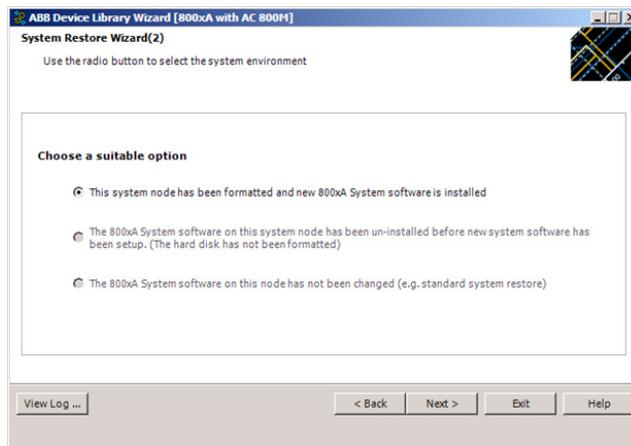

Figure 10. System Restore Wizard (2)
5. Choose the first option as shown in Figure 10 and click **Next**.